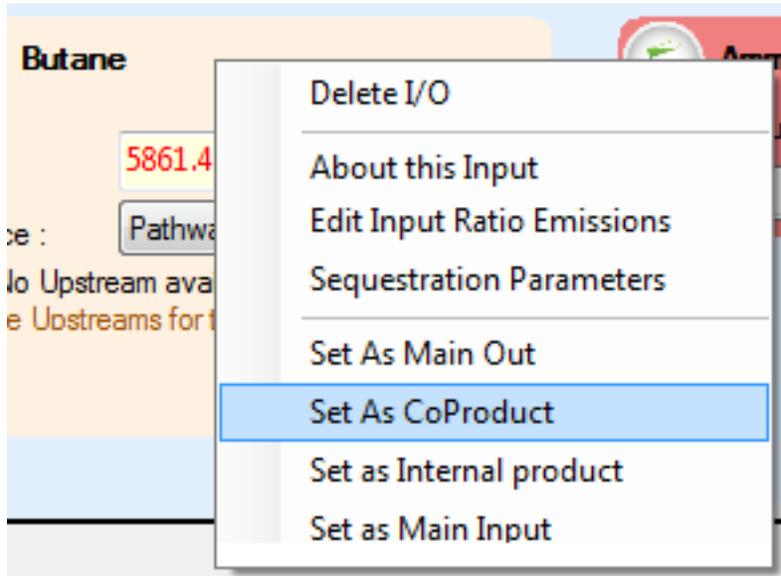

Figure 46: Input Right Click Menu
**Coproducts:** To specify a coproduct, first add an input, then right click on this input and select **Set as CoProduct**. See Figure 46.